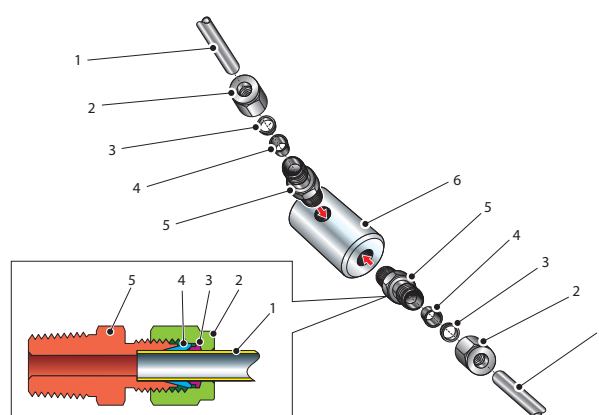

Figure 8 *Sample Block Gas Connections*
Sample gas connections are made to the Gas In and Gas Out ports on the sample block see *Figure 8*. Either port on the sample block may be used as the Gas Input port (i.e. for connection purposes the ports are interchangeable).
Both the Input and Output gas connections are $\frac{1}{8}$ " NPT. It is recommended that both the Gas Input and Output connections are made via $\frac{1}{8}$ " NPT to 6mm or $\frac{1}{8}$ " NPT to $\frac{1}{4}$ " stainless steel tube adaptors (2 to 5 – *Figure 8*). The method of connection to the sensor block (6) is as follows: